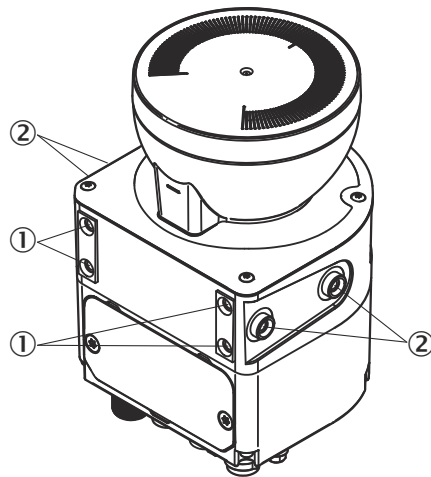

Figure 54: Mounting the safety laser scanner directly
- ① Rear M5 threaded hole
- ② Side M5 threaded hole
- ▶ Use either the rear or the side M5 threaded holes for direct mounting, see figure 54, page 90.